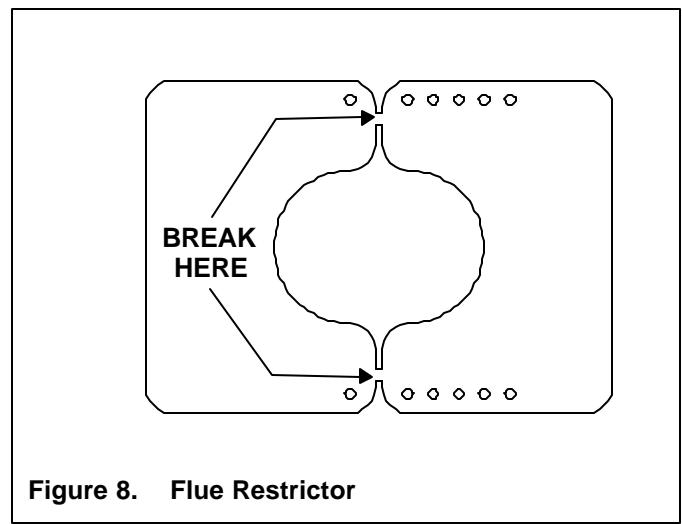

Figure 8. Flue Restrictor
2. Break the Flue Restrictor into two pieces. Do this by bending the part back and forth until it breaks (see Figure 8).